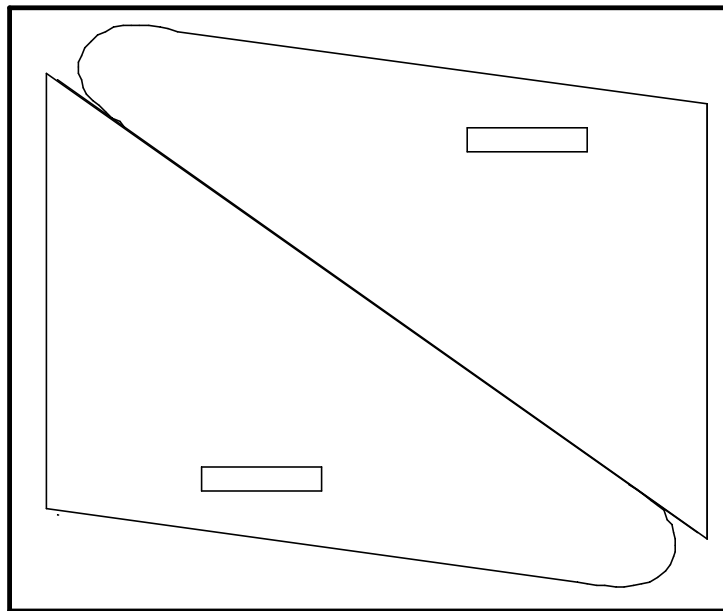

**Figure 19**
**Attach Elevons to Servos** Attach control rods to the servo control arms with a Z-bend. (NOTE: Z-bend pliers may be purchased from your local hobby store to make this operation easier.) (See Figure 19) Position the control horns on the elevon directly behind the servo control arm close to the hinged edge but be sure the control horn and screw plate do not interfere with the movement of the elevons. Mark the position of the control horns. Drill two holes with 3/32" drill for each control horn. Install the control horns on the elevons. Note that the two screws will self thread into the plastic screw plate. Attach the control rods to the top hole of the servo control arms. Attach the clevises to the threaded control rods. (See Figure 18)
Make a 10 degree bend in the control rods 1 inch behind the servo to prevent binding. Beginning flyers put the clevis in the 1st or 2nd hole from the top for less response. Experienced flyers put the clevis in the 3rd or 4th hole from the top for more response. (See Figure 19)